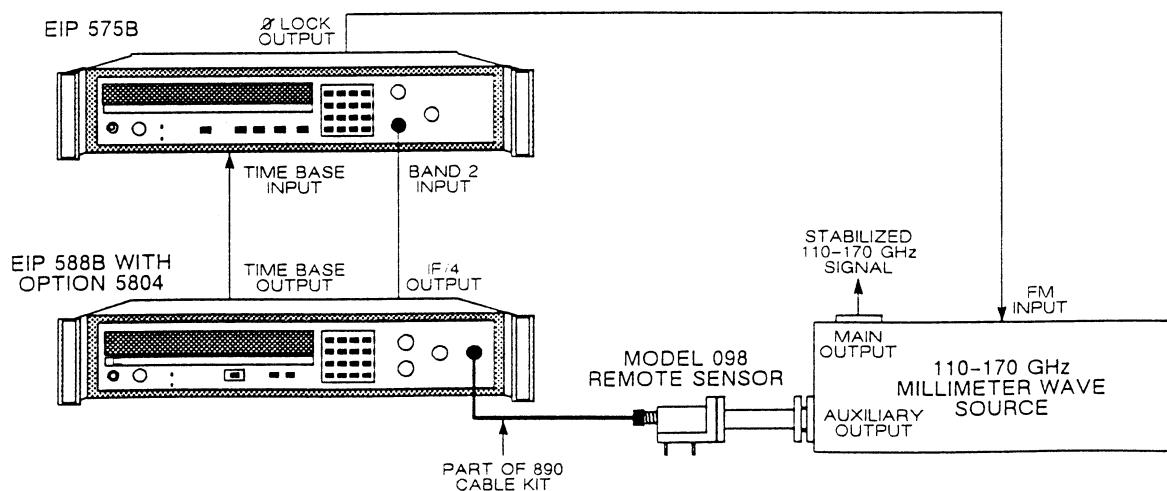

Figure 1. Equipment Setup for Source Locking 110 GHz to 170 GHz.
Another approach, which is the primary focus of this application bulletin, is to combine the capabilities of the 575B, a 20 GHz version of the 578B, with the 588B, a pulse/CW counter that supports frequency measurement through 170 GHz. In the 575B/588B method, the 588B downconverts the 110 to 170 GHz millimeter wave signal to an IF. The 588B, shown in Figure 1, is modified to provide a prescaled IF output at rear panel. The 575B samples the IF and provides a control voltage to modulate the frequency of the millimeter wave source as required to hold the frequency of the IF constant. By holding the IF constant, the millimeter wave output of the source is stabilized. Figure 1 is a block diagram of the equipment setup required for source locking between 110 GHz and 170 GHz.
Using the setup described in Figure 1, millimeter signals can be stabilized to the accuracy of the 575B time base (typically 1×10^{-7} per month), and can be tuned in steps as small as 40 kHz. Also, the millimeter setup can be automated by putting the counters under GPIB control.
1. Connect the equipment as shown in Figure 1.